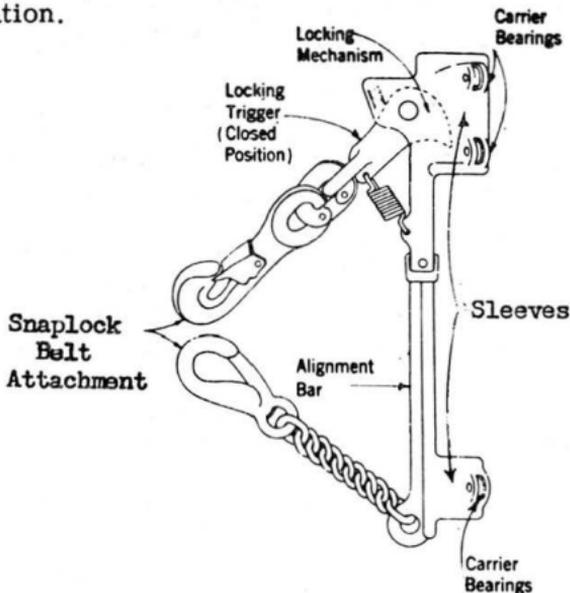

FIG. 2
2.06 The Sliding Sleeve (Figure 2) slides freely, either up or down the carrier rail, whenever pressure is applied as in a normal climbing operation.